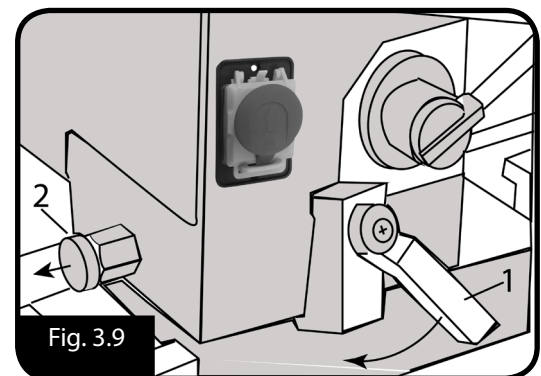

Fig. 3.9
Headstock (Fig.3.9)
2. To set the headstock at the desired position, you must first turn the head lock handle [1] until you have completed at least one rotation. (Fig. 3.9)